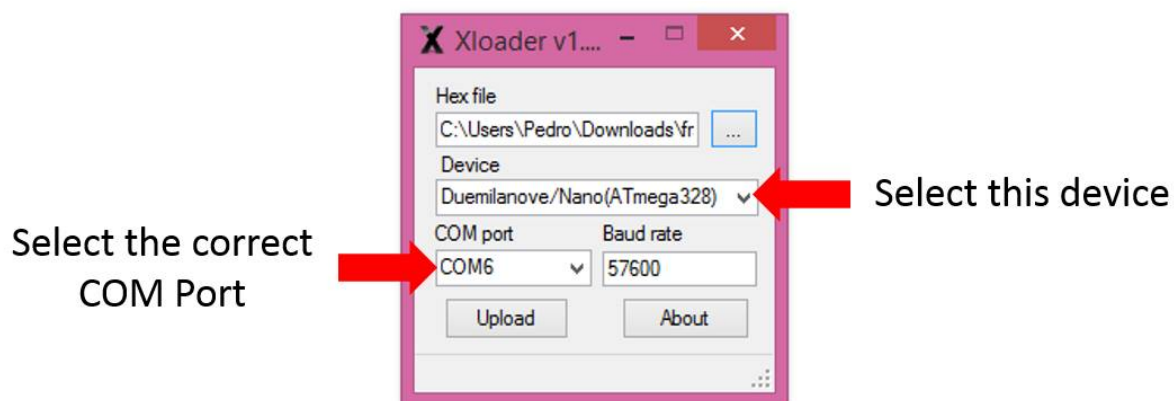

Figure 2: XLoader configuration
3. Launch XLoader and configure it according to Figure 2, taking into account the path where you extracted the zip file and thus where the HEX file is. The .HEX file is the new firmware to be loaded into the converter.